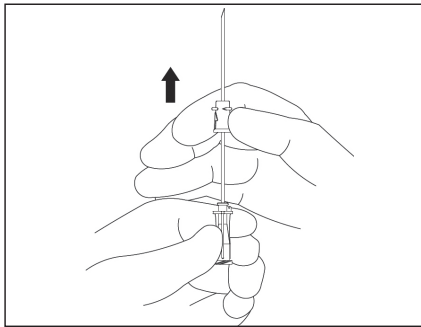

Figure 18
- Grasp clear clip housing, which houses the metal safety clip, with your free hand. Advance the clip housing forward along the safety introducer needle toward needle bevel (refer to Figure 18).